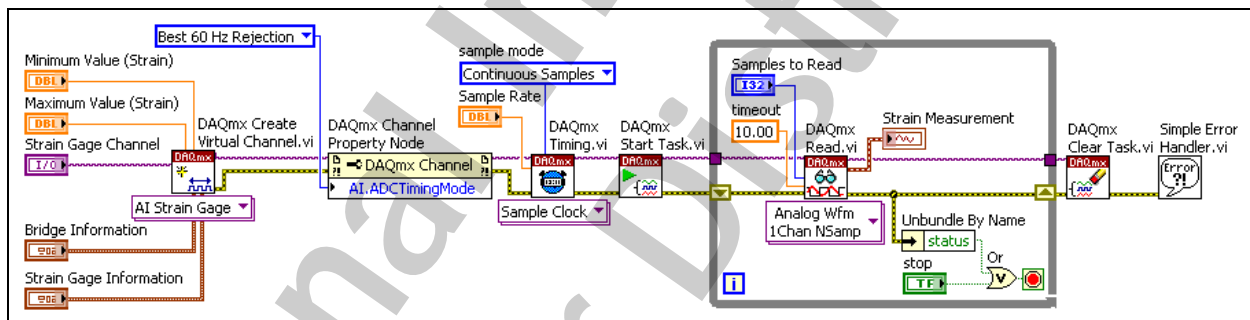

Figure 7-3. Strain VI Block Diagram
3. Modify the block diagram to measure strain, as shown in Figure 7-3 using the following items: